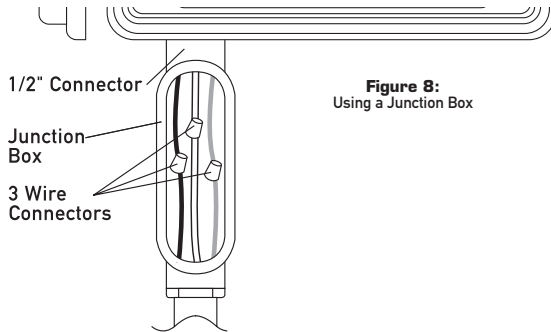

Figure 8:
Outdoor Locations—If a covered Ground Fault Interrupter (GFI) outlet is available, insert the power cord into the 110 volt outlet. If no outlet is available, the controller must have the wiring permanently installed (**Figure 8**)
- Connect the junction box to the controller using a 1/2" nipple (Junction box and nipple not included). [See **Figure 8**] Connect the source power conduit to the entrance of the junction box, following all the appropriate codes.